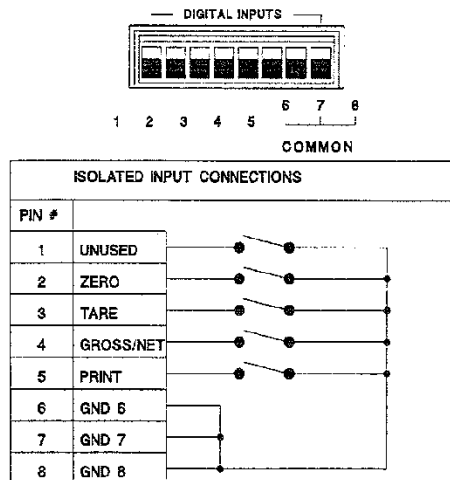

Figure 2-10. Remote Digital Inputs
Certain front panel key functions can be initiated remotely using the rear panel digital inputs. Figure 2-10 gives wiring designations for remote operation of the ZERO, TARE, Gross/Net (GN), and PRINT keys. Interconnecting wire/cable length should not exceed 50 feet. Route wires/cable away from ac power lines and other EMI sources to prevent interference.